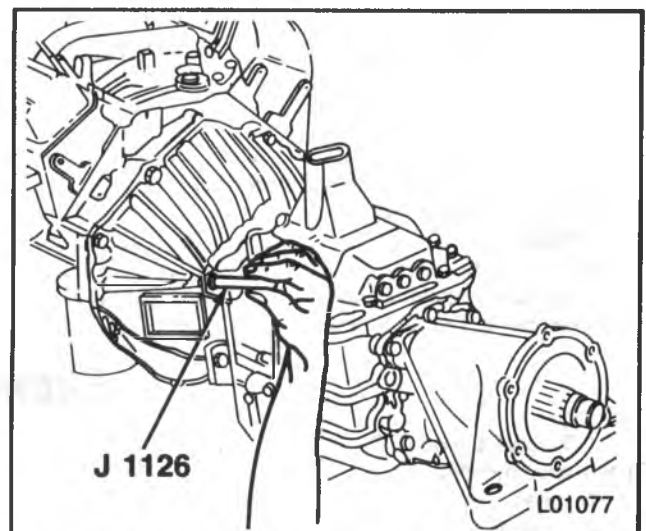

Figure 9 — Installing Guide Pins (117MM 4 Speed)
6. Speedometer cable (112) and the seal (113).
11. Screws (101) and the spring washers (100).
- Remove the top two first and install guide pins J 1126 (117MM 4 speed) (figure 9).
12. Transmission (104).
1. New plugs (114) if needed.
2. Transmission (104).
- Install guide pins J 1126 in the top two holes (117MM 4 speed) (figure 9).